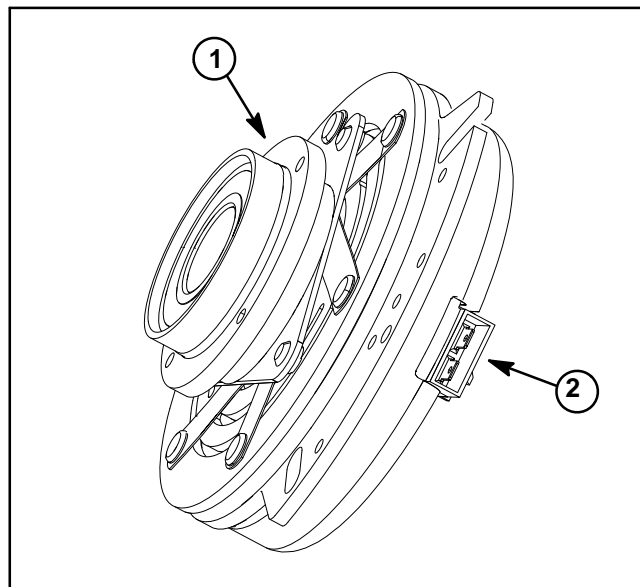

Figure 74
2. Locate clutch on spray pump shaft. Carefully unplug machine wire harness connector from clutch terminals (Fig. 74).